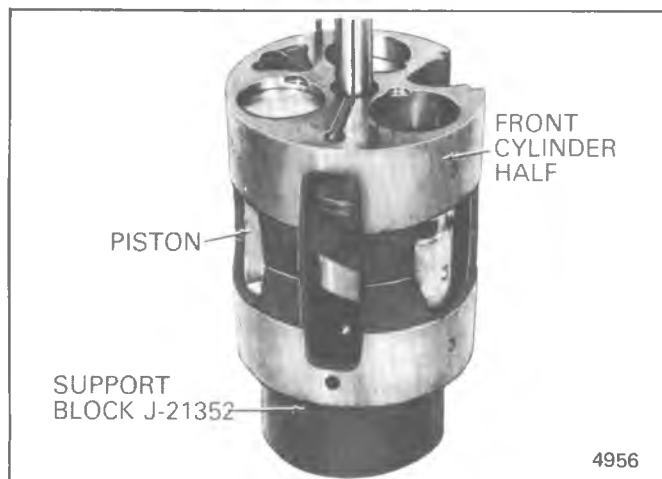

Fig. 1D-35 Numbering A-6 Piston and Cylinder Bores
2. Identify by pencil mark, or some other suitable means, each piston numbering them as 1, 2 and 3 (Fig. 1D-35).